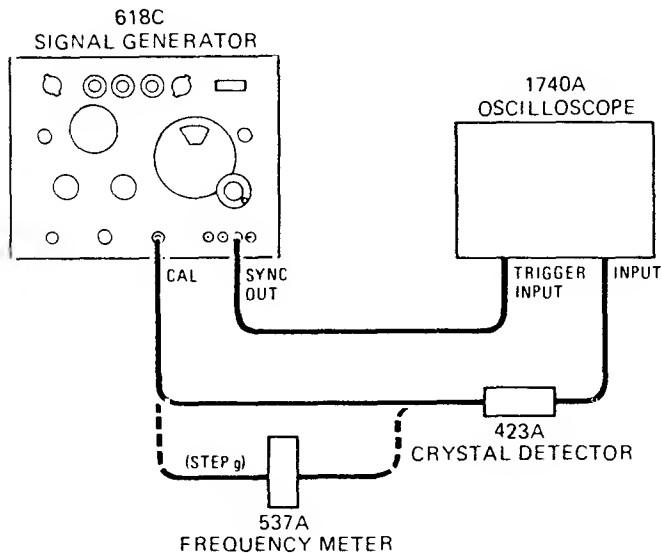
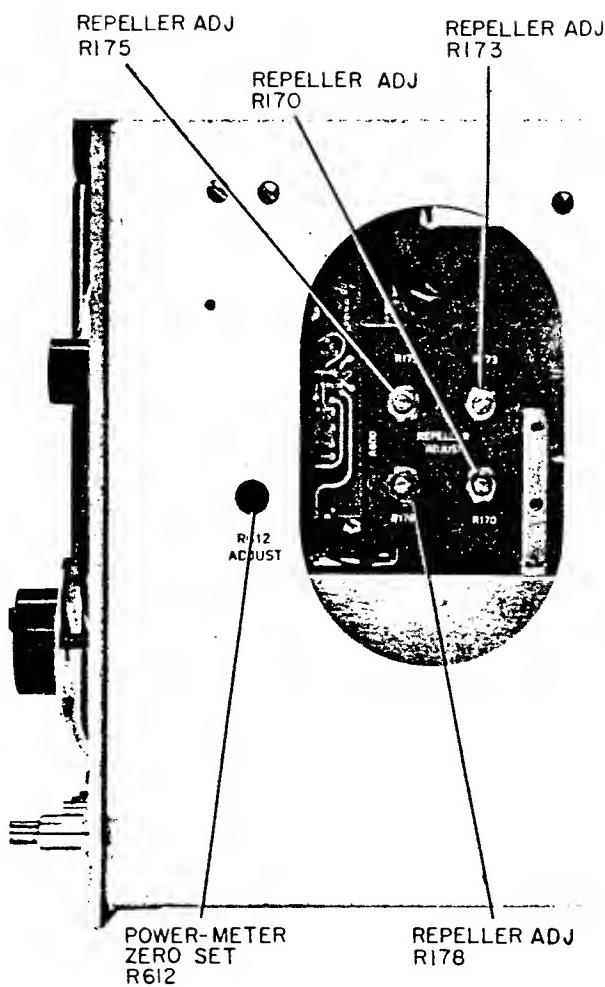
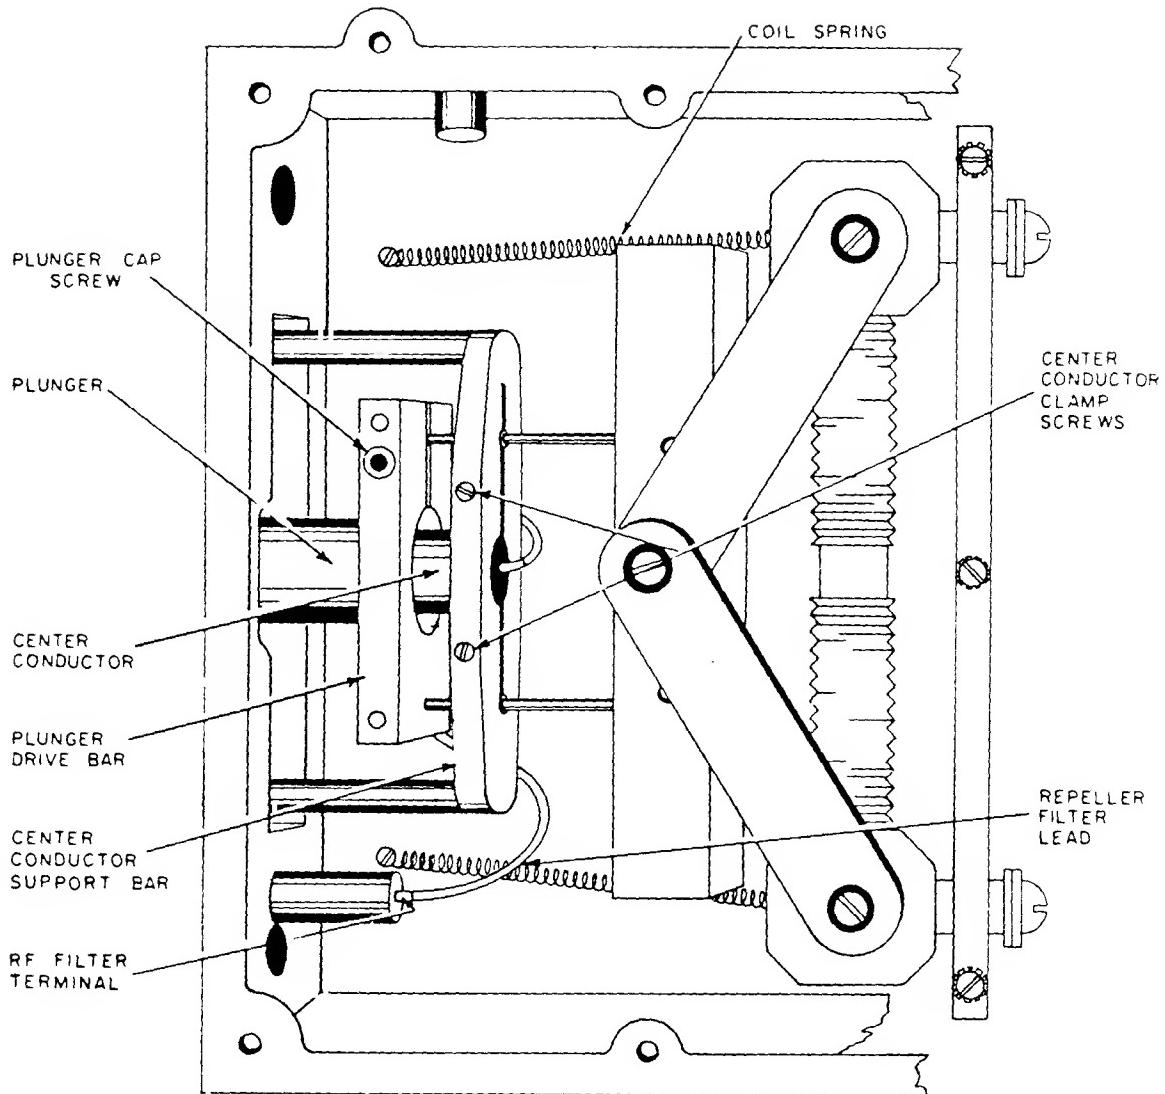

Figure 5-9. Setup for Frequency Dial Calibration (618C)
Figure 5-11. Location of Tracking and Power-Set Meter Adjustments
Figure 5-13. Frequency Drive Mechanism, Cover Plate Removed (620B)
- d. Connect instrument as shown in Figure 5-9.
- g. At this point it is advisable to check the dial calibration at the high end stop. This check avoids possible retracking adjustments when the dial calibration is adjusted later. To conduct the check, tune frequency control to high end stop and place wavemeter in circuit as shown in Figure 5-9. Wavemeter should indicate 7.650 GHz. When the wavemeter is tuned to the actual frequency of the generator a slight decrease in the peak level of the pulse appears on the scale. If this frequency is more than 25 MHz away from 7.650 GHz perform step d in paragraph 5-34.
- h. Remove wavemeter and reconnect output cable as shown in Figure 5-9. Tune the frequency control toward 5 GHz, adjusting R170 (Figure 5-11) for best pulse shape between 7.6 and 5 GHz.
- i. Tune the frequency control between 5 and 4.2 GHz; adjust R173 and/or R178 (Figure 5-11) for optimum pulse shape.
- e. Adjust POWER SET control to obtain up-scale indication on the power set meter. If necessary, adjust potentiometer R170 (Figure 5-11) to obtain proper meter indication. Recheck klystron beam current (25 mA maximum).
n. Measure Signal Generator output frequency with Frequency Meter. If the measured frequency is below 11.1 GHz, remove bottom plate from frequency drive mechanism and perform (1) through (4) following; if not, perform (5) through (9) following:
- (1) Loosen plunger cap screw (Figure 5-13).
- (2) Adjust Frequency Meter to 11.1 GHz.
- (3) Gently tap rear of plunger until Frequency Meter dip is centered on mode pattern.
- (4) Tighten plunger cap screw and replace bottom plate.
- (5) Set Frequency Meter to 11.1 GHz.
- (6) Adjust frequency dial until Frequency Meter pattern is centered on the mode pattern.
- (7) Loosen plunger cap screw.
- (8) Turn frequency dial to high frequency stop while holding plunger stationary.
- (9) Tighten plunger cap screw and replace bottom plate.
p. Tune Signal Generator across entire band and center repeller mode pattern with repeller tracking potentiometer R170, R173, R175, and R178 (Figure 5-9). Figure 5-12 (A and C) shows two typical mode patterns. Figure 5-12A shows a symmetrical mode pattern that is properly centered by the correct repeller voltage; Figure 5-12B shows the same pattern set off-center by incorrect setting of repeller voltage. Adjust potentiometers R170 and R178 (Figure 5-11) to obtain correct repeller voltage tracking between 11 GHz and the frequency just above the point where the microswitch is actuated (approximately 8.7 to 9 GHz). Adjust potentiometers R173 and R175 (Figure 5-11) to obtain correct repeller voltage tracking between the frequency just below the point where the microswitch is actuated (approximately 8.6 GHz) and 7 GHz.
h. Refer to Figure 5-13 and loosen the cap screw holding the plunger in the plunger-drive bar.
a. Remove instrument cover for access to R612 (see Figure 5-11).
c. Adjust POWER SET until meter pointer is about 3 8 inch to the right of zero (0).